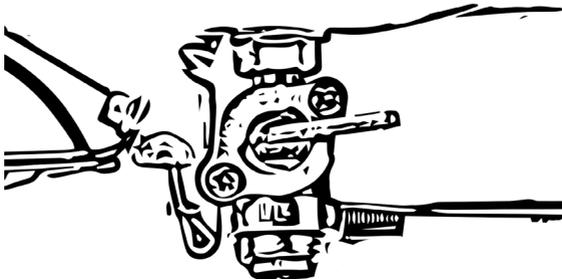

Figure 25
- Switch the fuel tap to OFF, Fig. 25.